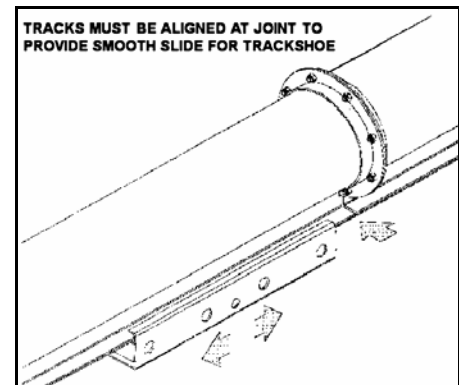

Figure 3.21
1. Slide the four-roller track shoe onto the track on the tube. See Figure 3.21.
3. Slide the track shoe along the full length of track to make sure there is no binding and that track ends are properly aligned. Adjust tube joints if necessary (Figure 3.21).